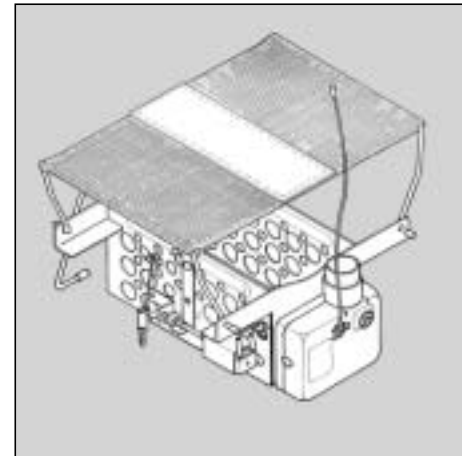

Figure 8. Remote launcher released.
- 5) Press the transmitter's Launcher button. The remote launcher is working properly if the bird cradle pops open (Figure 8).